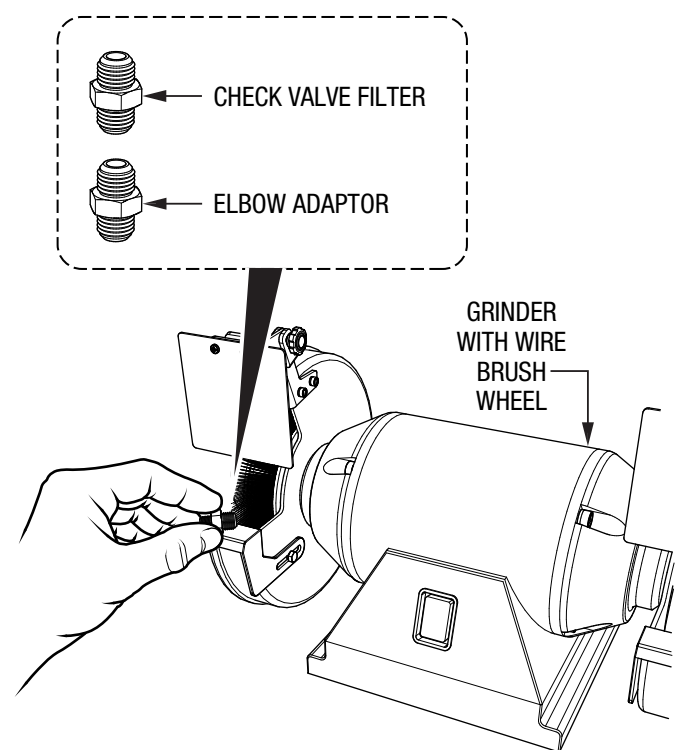

Figure 12. Clean Elbow Adaptor and Check Valve Filter
6. Use a grinder with a wire brush wheel to clean the elbow adaptor and check valve filter (Figure 12). Make sure they are smooth and free of burrs, rust, and debris.